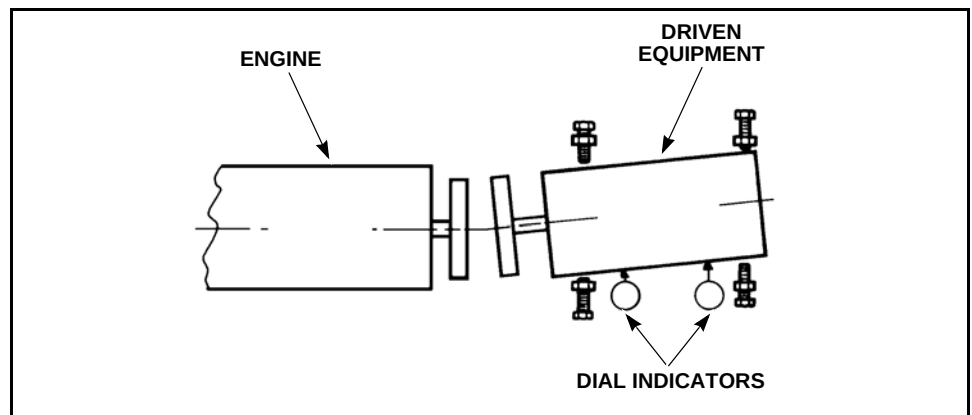

Figure 9-12 Adjusting for Angular Alignment
1. Set up two dial indicators, one to monitor horizontal movement of the inboard mounts, one to monitor horizontal movement of the outboard mounts. Zero the indicators (see Figure 9-12).